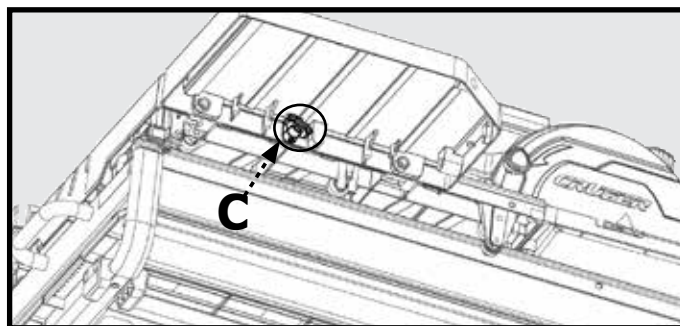

Figure 13
3. Secure the Table Extension to the Work Table by tightening the Thumbscrew (C) located under the Table Extension as shown in Figure 13.